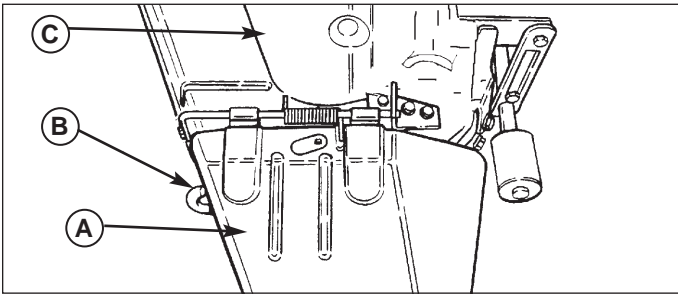

Figure 1. Deflector, Stone Guard, and Cover
2. Remove the deflector (A, Figure 1) and corresponding mounting hardware from deck. Also Remove the left side belt cover (C). Clean all mounting holes.